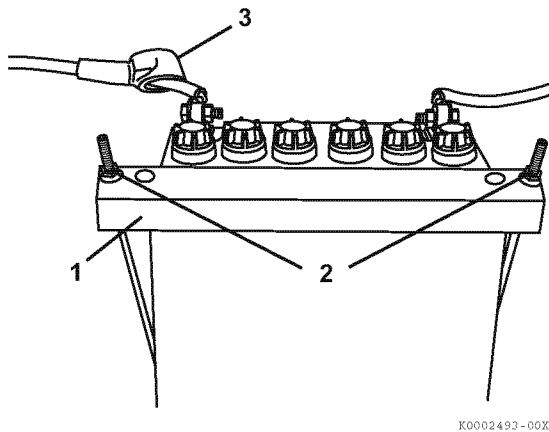

Figure 17
12. Reinstall battery hold-down (1, **Figure 17**) onto battery.
13. Tighten nuts (2, **Figure 17**) until battery hold-down is tight. Do not over-tighten nuts.
15. Install boot (3, **Figure 17**) onto the positive (+) terminal of the battery.